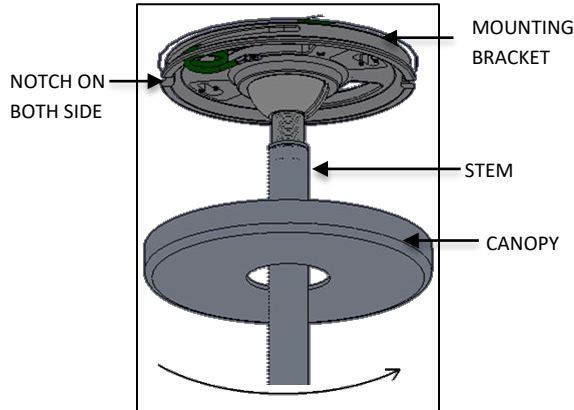

FIG. 20 – CANOPY INSTALLATION
9. Raise the CANOPY and tighten onto the MOUNTING BRACKET by lining the SPRING TABS up the NOTCHES in the MOUNTING BRACKET and rotating 90 degrees clockwise as shown in FIG. 20.